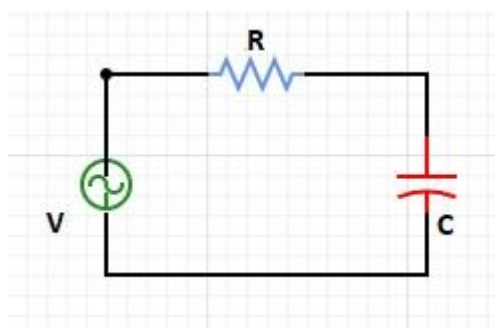

Fig 1.1 : RC Circuit
1. Connect the circuit as shown in Fig 1.1 below on breadboard